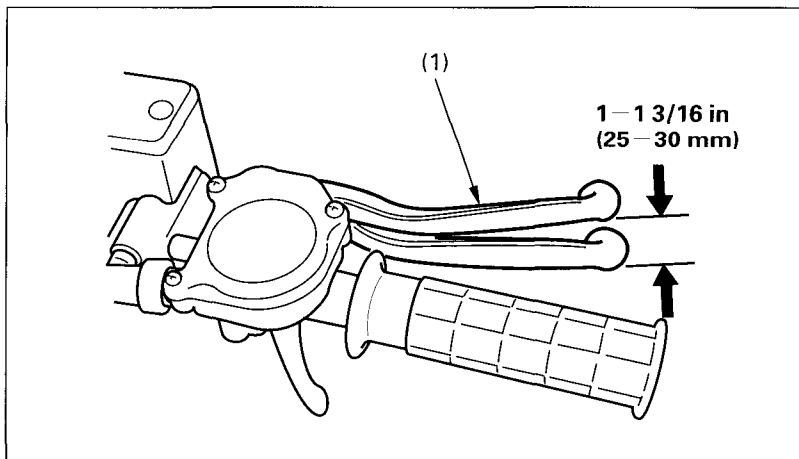

Fig. 4-25
1. Measure the distance the brake lever (Fig. 4-25) moves before the brakes start to take hold. Free play, measured at the tip of the front brake lever (1) should be: